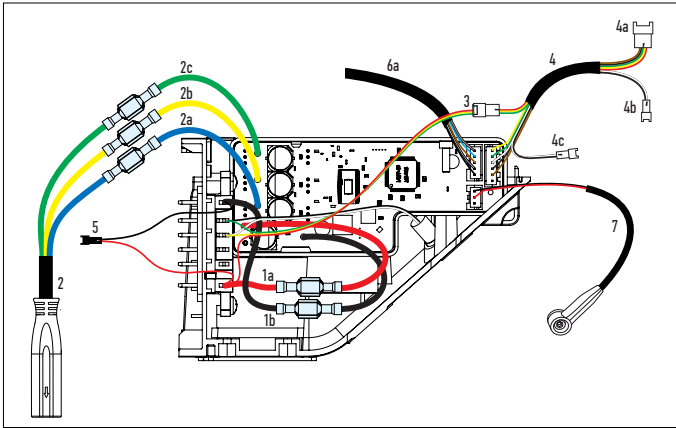

Figure 4.14 Control unit cabling for the torque revolution sensor
There is only one type of control unit for bikes with revolution sensor and torque/revolution sensor. Connections are shown in Figures 4.14 and 4.15.
1. Connect all cables according to the schematic (Fig. 4.14 or 4.15).